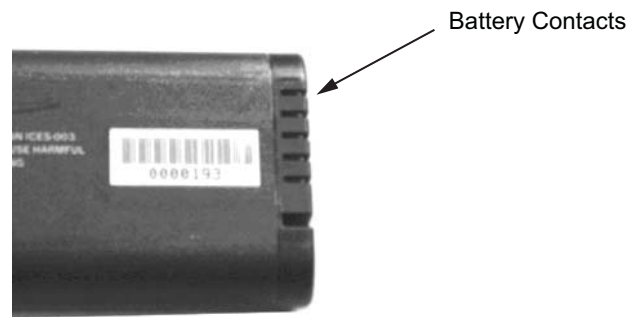

Figure 6-3. Orientation of Battery Contacts
5. Replacement is the opposite of removal. Note the orientation of the battery contacts, and be sure to insert the new battery with the contacts facing the bottom of the unit, as shown in Figure 6-3.